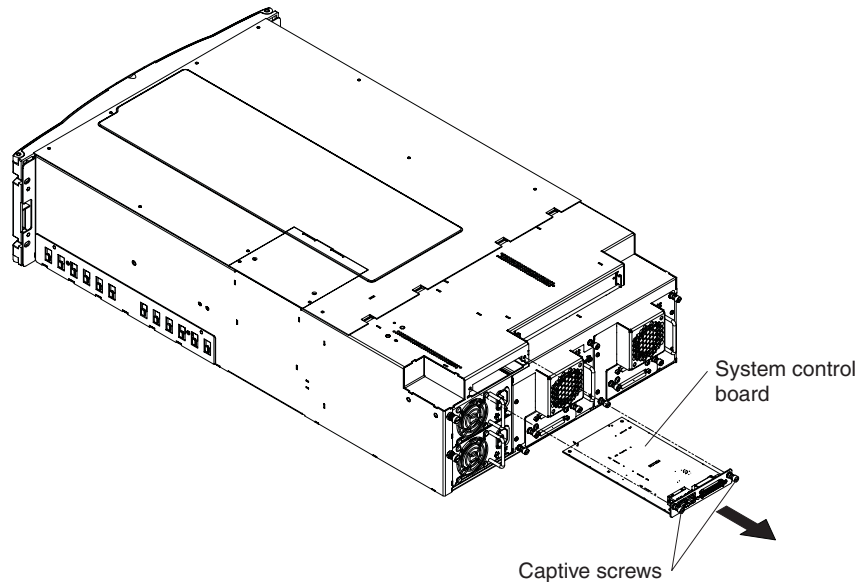

Figure 18. Removing the system control board
5. Pull the system control board out of the library chassis as shown in Figure 18.